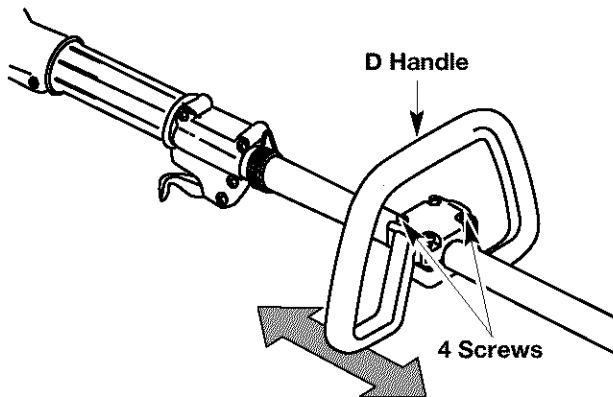

Fig. 8
1. Loosen the four (4) screws with a Phillips screwdriver (Fig. 8).